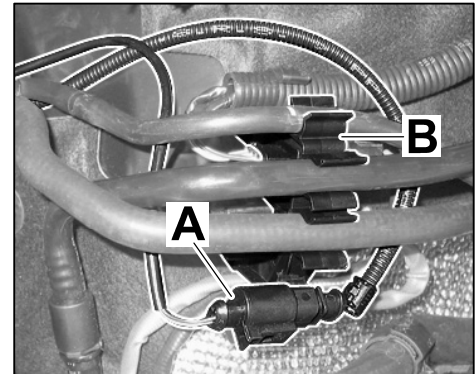

Figure 36
- 4.8.3 Fit connector for exhaust flap valve at holder ⇒ *Figure 36 -B-* and join connection point ⇒ *Figure 36 -A-*.